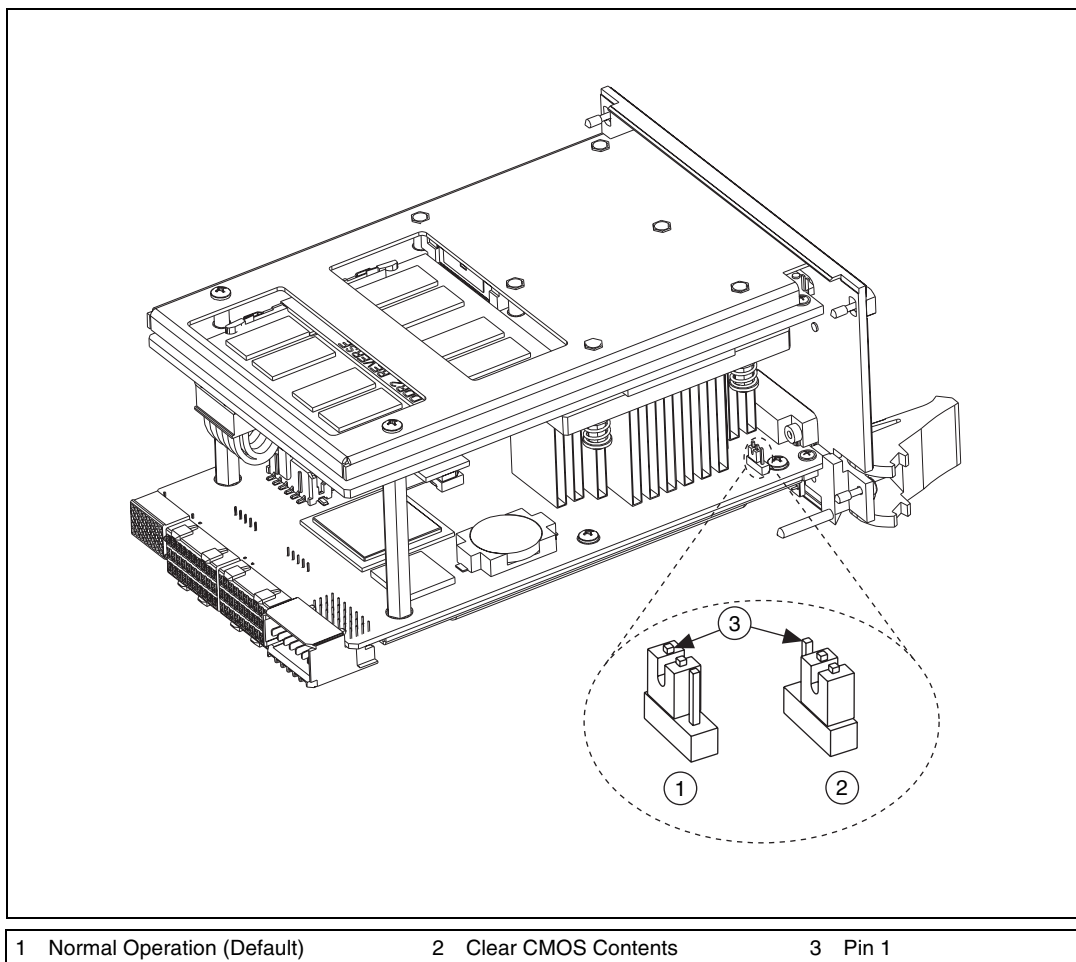

Figure 5-1. Clearing the CMOS Contents
3. Move the jumper on W5 from pins 1–2 to pins 2–3 as shown in Figure 5-1.